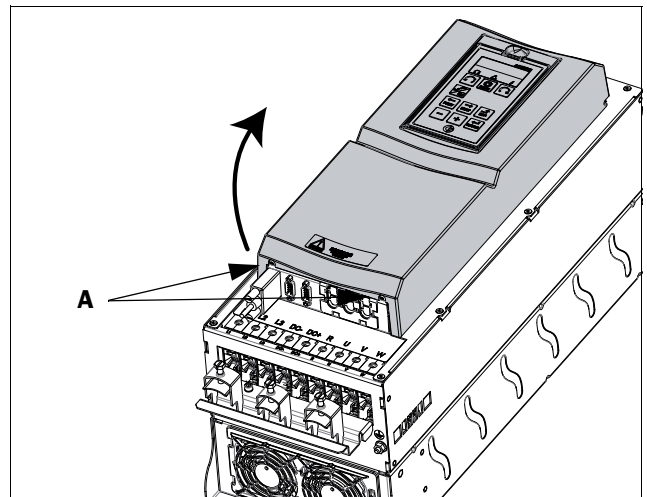

Fig. 21 Remove the front cover on frame size C2 - F2 (principle drawing).
- Loosen the two screws A (see Fig. 21) at the bottom of the cover a couple of turns (you do not have to remove the screws).